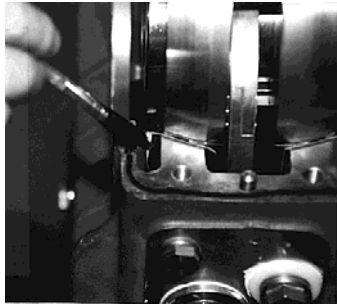

Fig. 3. Applying luting agent.
23. Apply luting agent on the bottom part of the bearing housing (Figure 3).